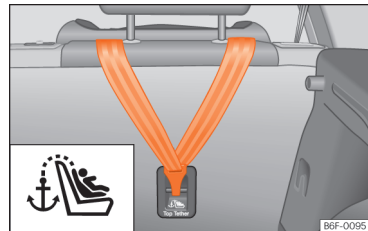
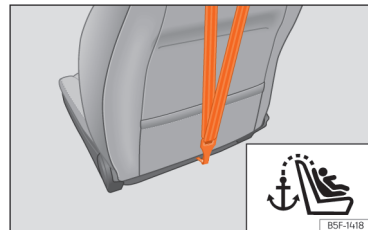

Fig. 49 Rear part of the rear seats: securing rings for the Top Tether strap.
Fig. 50 Rear of front passenger seat backrest: Top Tether strap anchor.
- Slide the strap and secure it properly with the anchor on the rear seat backrest »» Fig. 49 , »» Fig. 50.